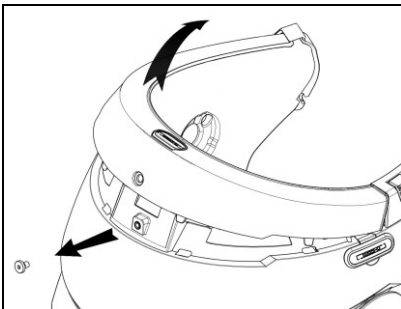

Fig. 4
- Remove the helmet edge gasket using the special tool (Fig. 4).
- Completely remove the gasket as shown in Fig. 4; by doing so you also remove the padding.